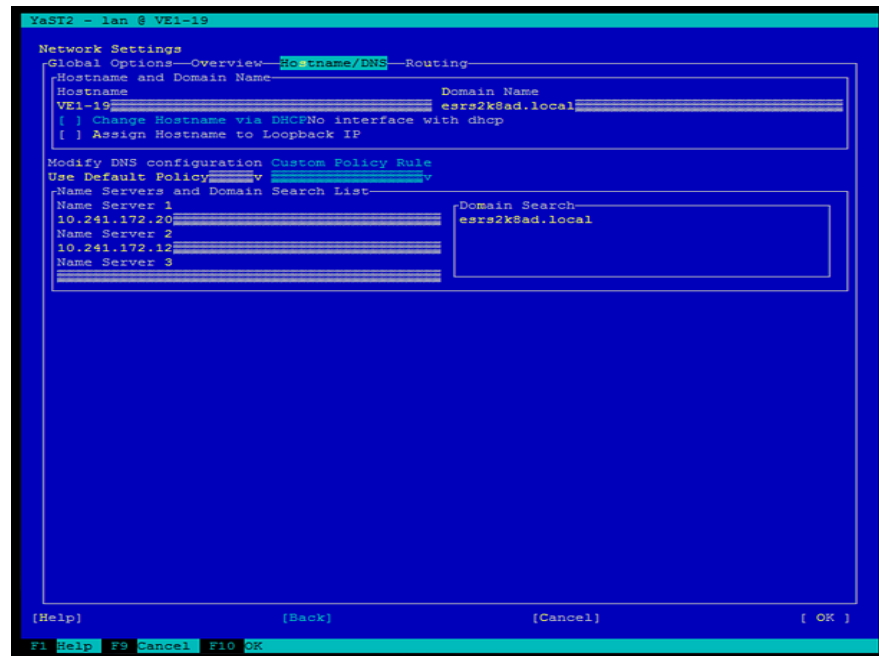

Figure 173 Changing DNS configuration
- b. Edit the DNS configuration using **Alt-S**, as shown in Figure 173 on page 131. If editing is complete, then use **Tab**, **Alt-O**, or **F10** for **OK**. All edits to the network configuration will be written to the system configuration.